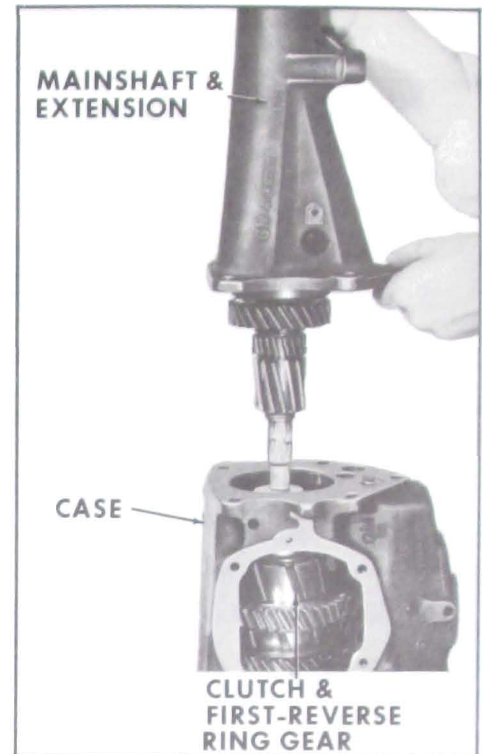

Figure 4-39—Mainshaft and Extension Installation
18. Align lugs on synchronizer rings with slot in mainshaft so that the lugs slide in slots on gear. Be sure that the clutch gear roller bearings are still in position. Push the shaft into the clutch sleeve until the extension is tight against the case. See Figure 4-39.